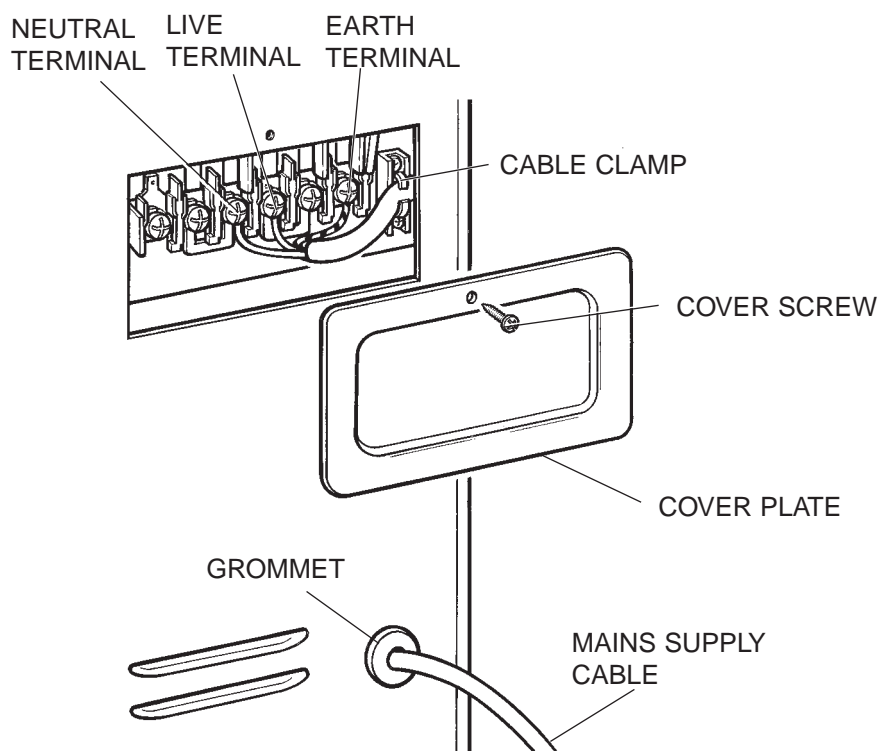

Figure 3 – electrical connections
1. Release the cover plate by removing the cover screw (Figure 3).
2. Loosen the cable clamp (Figure 3).
3. Feed the mains connection cable through the grommet in the back panel and cable clamp. Connect the mains supply cable to the terminal block on the cooker using the following colour code (Figure 3):
- The blue or black wire should be connected to the neutral terminal (N).
- The brown or red wire should be connected to the live terminal (L).